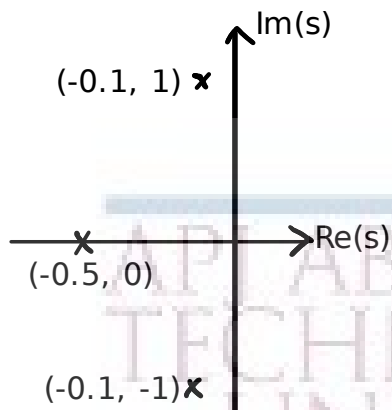

Figure 1: Pole Zero Plot
7. For the pole-zero plot shown in Fig. 1 below, for a network function, identify the function and find its impulse response.